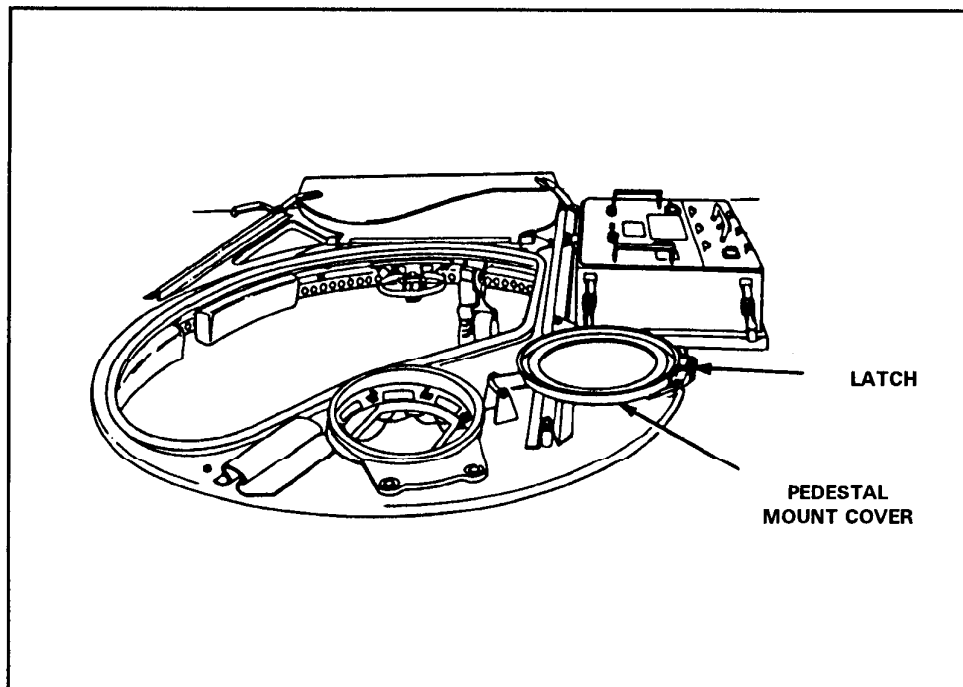

Figure 3-7. Pedestal mount cover and latch.
(1) The gunner opens the pedestal mount cover and secures it (Figure 3-7, page 3-9).
(2) The gunner lifts the traversing unit with adapter attached from the stowage base and secures the traversing unit to the pedestal mount with the coupling clamp ensuring that the traversing unit azimuth lock is toward the rear of the vehicle.